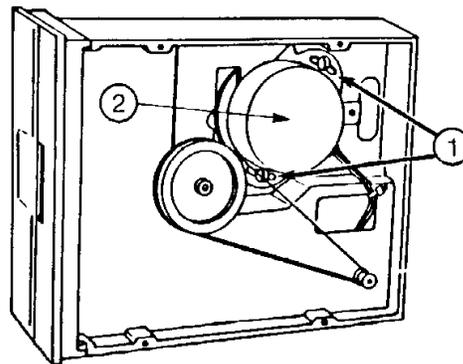

FIGURE 12
15. Slightly loosen the two mounting screws holding the stepper motor to the casting (Figure 12, #1) by turning the screws counterclockwise just until the motor is slightly loosened.
16. Rotate the stepper motor just slightly to adjust the relative sizes of the lobes. (Figure 12, #2).